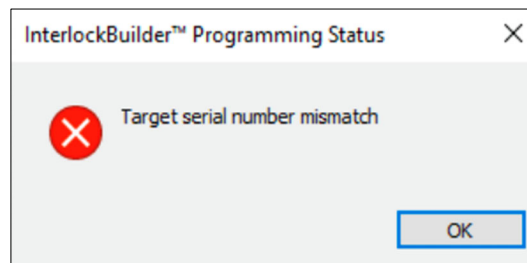

Figure 94 - Serial Number Mismatch
- “Target serial number mismatch” message (Figure 94) is shown: Serial number of the Fusion device which is connected to your computer does not match the serial number range in the Interlock Builder system project file.